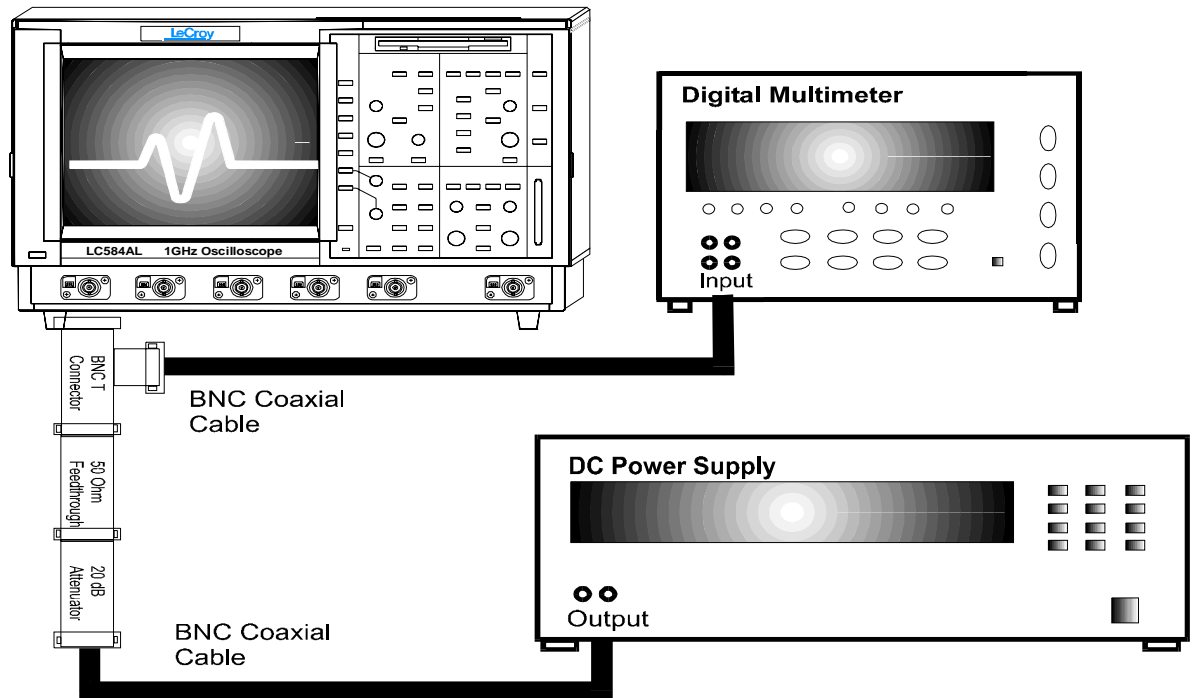

Figure 5-5 : DC 1MΩ Accuracy Equipment Setup for 100 mV/div
- For 100 mV/div, connect the test equipment as shown in Figure 5-5.